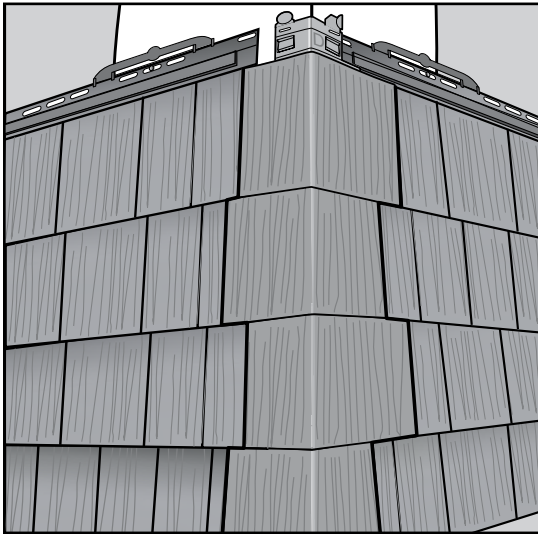

figure 12
4. Continue installing the corner pieces as you move up the wall. Following the pattern of A, B, C, D and then repeat (figure 12).